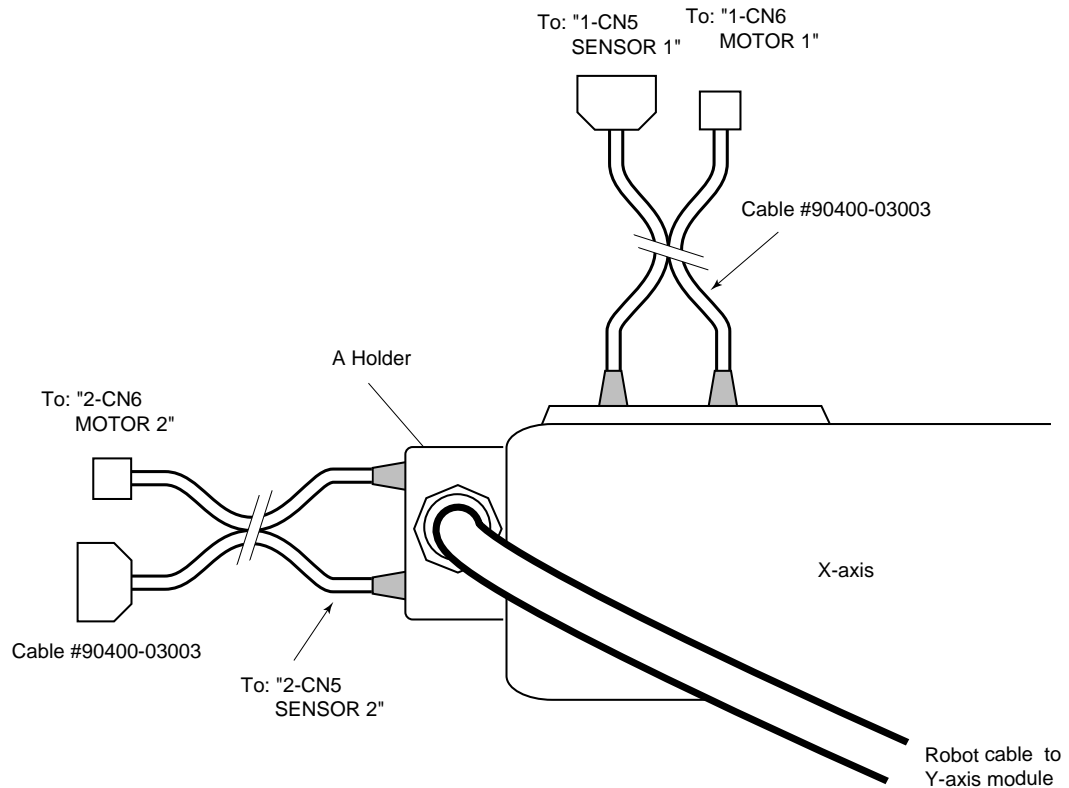

Figure 4-38. Connecting to an EXA or EXC Controller
- a. Connect the two barrel ends of the cable to the X-axis module as shown in Figure 4-38. These connectors have different pin sizes and cannot be installed incorrectly. The other ends connect to the controller connections marked “1-CN6 MOTOR 1” and “1-CN5 SENSOR 1”.
- b. Attach the A holder end of the robot cable to the motor end face of the X-axis module as shown in Figure 4-38 (refer to Section 4.3 for holder mounting).
- d. Connect the two barrel ends of the controller cable to the Z-axis robot cable holder on the X-axis module as shown in Figure 4-38. These connectors have different pin sizes and cannot be installed incorrectly. The other ends connect to the controller connections marked “2-CN6 MOTOR 2” and “2-CN5 SENSOR 2”.